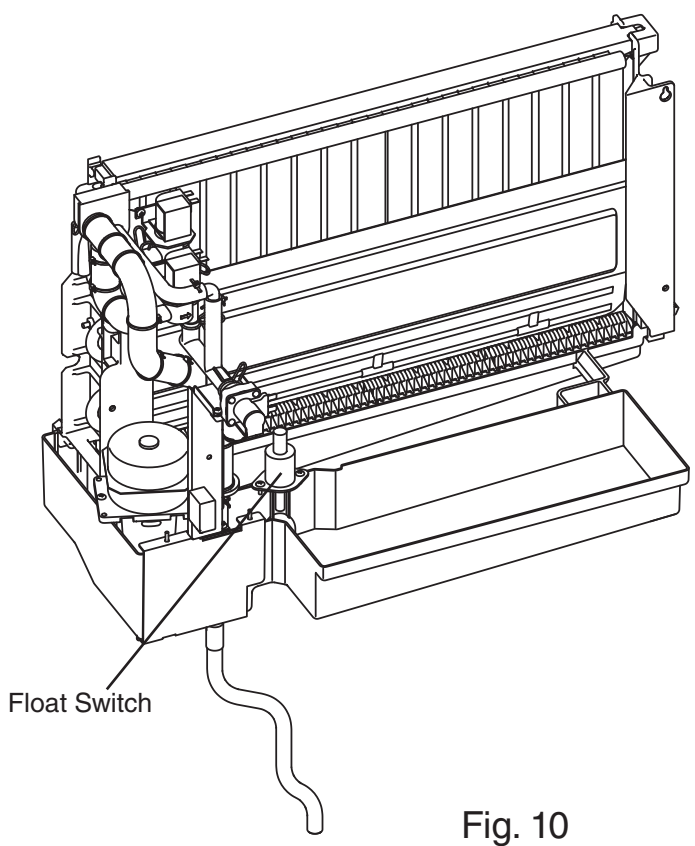

Fig. 10
- 19) Wash the bin control switch, water tank, float switch, cube guides, and overflow pipe by using a nylon scouring pad, brushes and the cleaning solution. See Fig. 10. In addition to the removed parts, also wash the bin liner and brackets (L) and (R) with the solution.